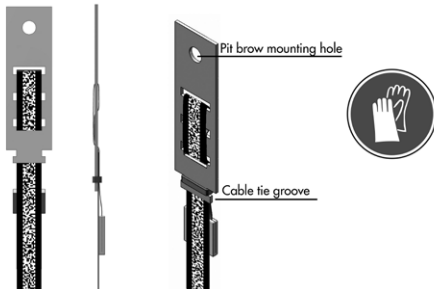

Figure 26: Top tension lock
2. Straighten the code tape. Fasten it with a cable tie around the tension lock (Figure 26).